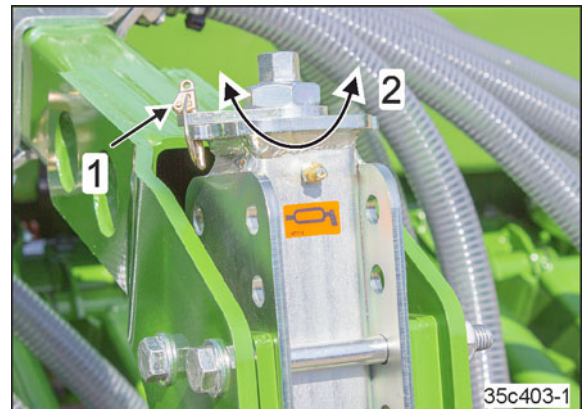

Fig. 186
It is adjusted by turning the adjustable spindle (Fig. 186/2) on all adjuster segments.
3. Remove the linch pin (Fig. 186/1)
4. Move the adjustable spindle to the desired position (Fig. 186/2) and secure with a linch pin